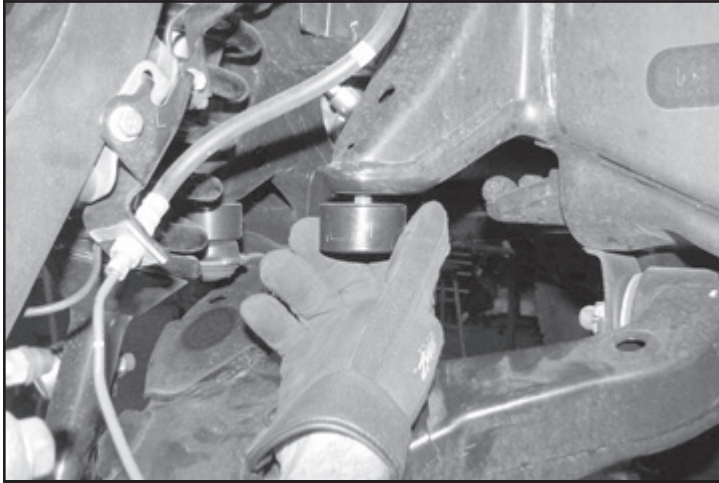

FIGURE 23
15. Locate the four FT70174 bump stop spacers and thread in to the factory bump stop mounts. **SEE FIGURE 23**